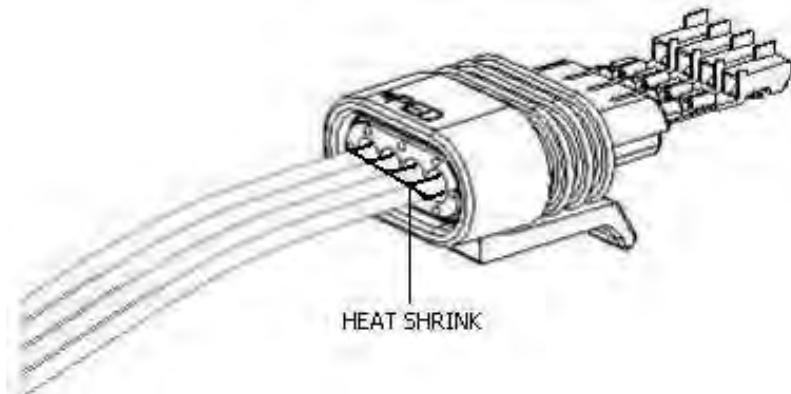

Figure 65
m. Pull terminated wires back through connector assembly as shown in Figure 65 to the fully seated position. Ensure that the terminal is in the correct orientation as it moves into the terminal cavity. Verify the terminal has been fully seated by listening for the audible click of the locking tab.